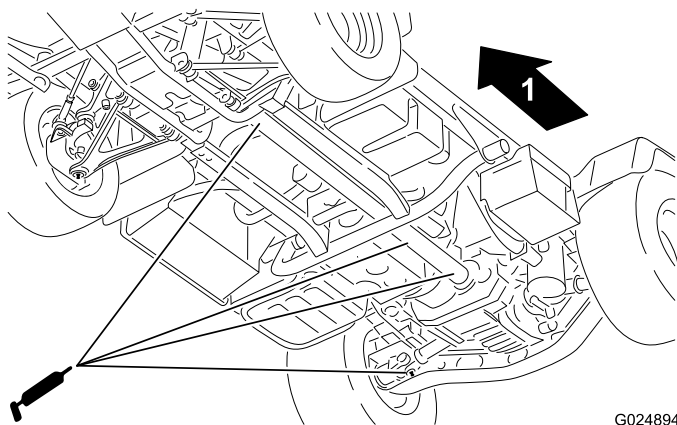

Figure 33
- U-joint (18) and 4 wheel drive shaft (3) (Figure 33)